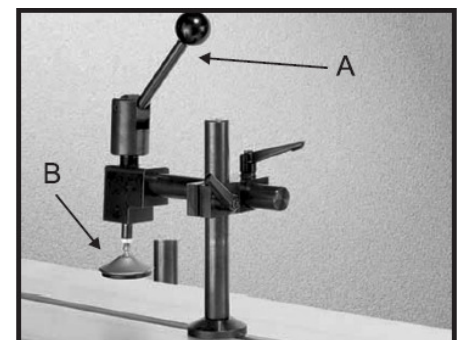

Fig. 3
1. Fine adjustment handle. (Fig. 3)
(4) Riving Knife and saw blade